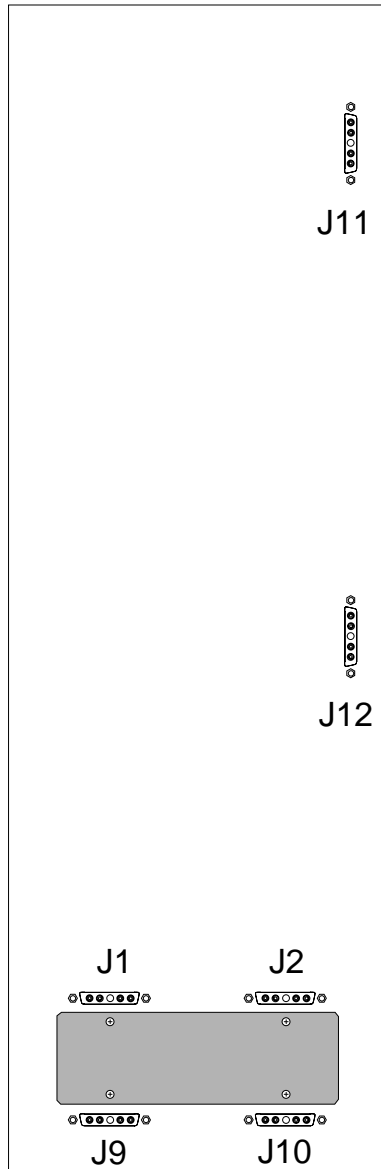

FIGURE 12 Back of Option Power Shelf—Typical
7. **Attach the (black) DC power cables to the lower horizontal connectors J9 and J10 on the front power shelf (FIGURE 12).**
8. **Attach the straight connector ends of the (red) DC power cables to the upper horizontal connectors J1 and J2 on the front power shelf (FIGURE 12).**
- b. **Attach the data cable from the status module tray labeled “B: FRONT J12” to J12 on the back of the front option power shelf (FIGURE 12).**